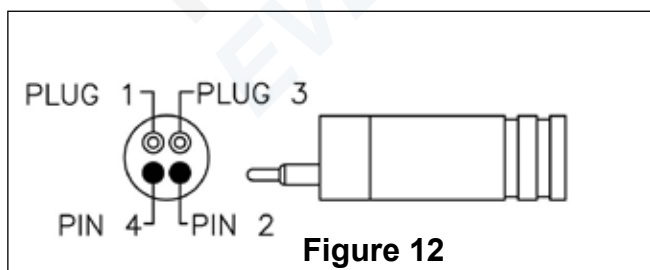
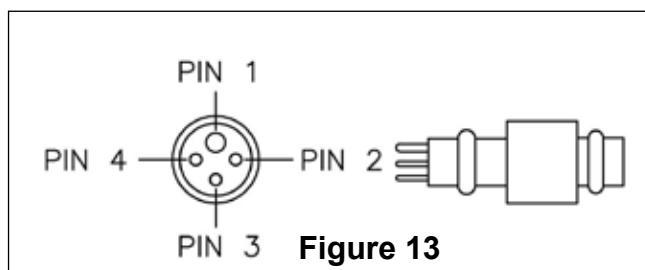

Figure 12
Figure 13
2. Hi-Use pin configuration (Fig. 12) and Marsh Marine pin configuration (Fig. 13).